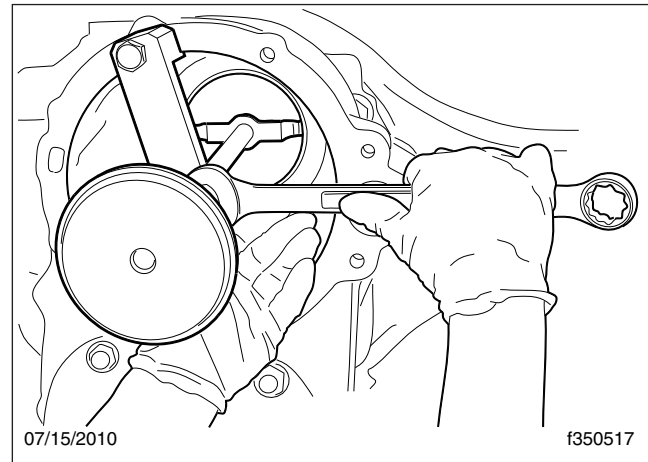

Fig. 4, Removing the Output Bearing Race
16. Align the output bearing remover (see Table 1) with the notches in the rear of the carrier housing, then attach it to the housing with bearing cage capscrews, and use it to remove the output bearing race. See Fig. 4.